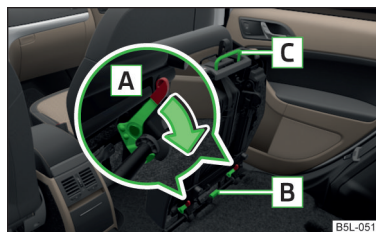

Fig. 52
- › Unlock the folded seat by pressing seat locks **A** in the direction of arrow » Fig. 52.
- Fold the outer seat forward » page 68 and unlock » Fig. 52 on page 69.